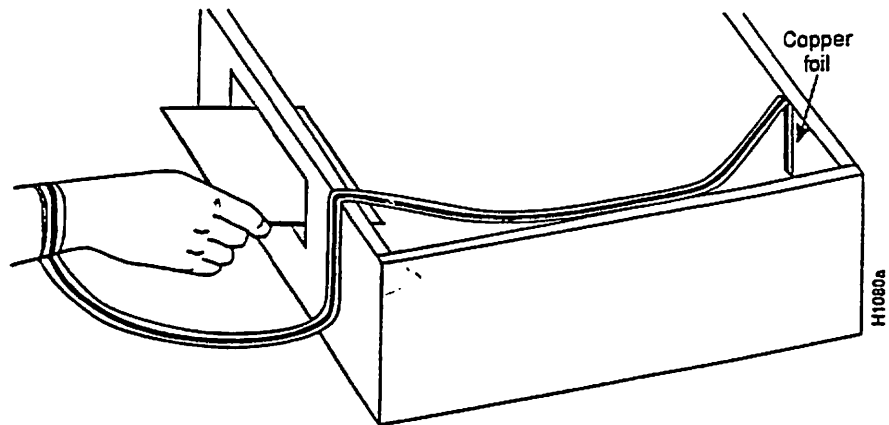

Figure 3 Wrist Strap Attached to the Chassis
Step 4: Attach the copper foil patch to a flat, unpainted surface on the chassis by pressing it firmly onto the surface. We recommend you attach it to the inside bottom of the chassis, the rear panel (inside or outside), or the chassis bottom. Do not make contact with any connectors or appliques (see Figure 3).